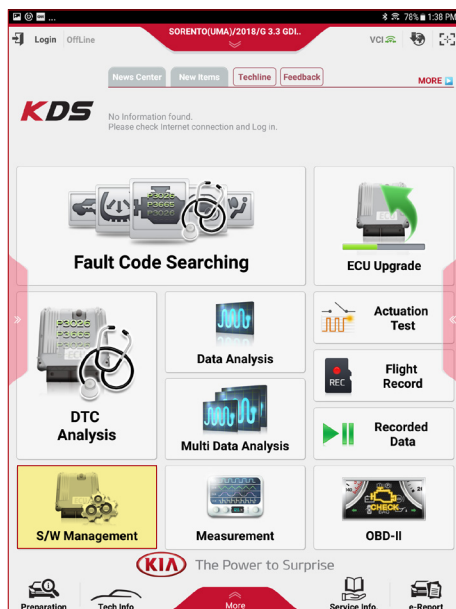

Fig. 1. KDS Main Page (S/W Management highlighted)
1. Navigate from the KDS Main page (See Fig. 1) and select S/W Management.